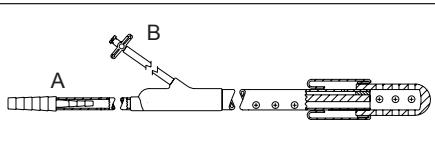

Figure 3: Calibration Tube
The calibration tube (**Figure 3**), supplied separately, is a dual-lumen translucent silicone tube, 157 cm long with a 13 mm diameter sensor tip at its distal end. As shown in Figure 3 below, the calibration tube utilizes one lumen for drainage, suction and irrigation (A) and the second lumen to inflate/deflate the fixation balloon (B). The balloon is 15 cc to 25 cc balloon for controlled sizing and positioning of the gastric pouch and is located 3.5 cm from the distal end of the catheter. The balloon is inflated via an inflation port that remains external during the procedure. The calibration tube is for single use only.